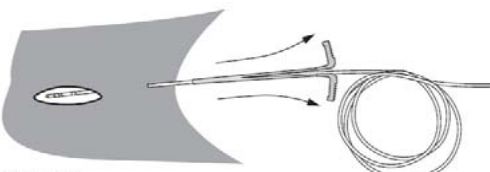

Figure 8
- While holding the catheter tip in place, withdraw the introducer sheath from the insertion site, then split the sheath and peel it away from the catheter. (Figure 8). CAUTION: Introducer sheath must be completely removed from the body before peeling it away from the catheter to prevent sheath from breaking off in patient. Dispose of introducer sheath and needle or tunneler in accordance with accepted medical practice.